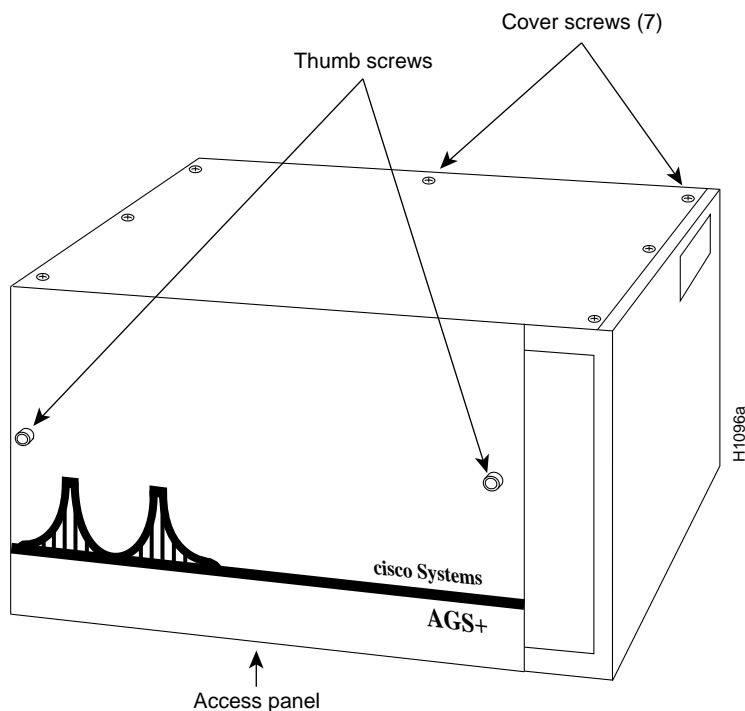

Figure 9 Front Access Panel and Cover Fasteners
- Step 2** On the front access panel (see Figure 9), turn the two thumb screws counterclockwise to loosen them; do not attempt to remove them from the panel. Pull the panel off the chassis and set it aside.
- Step 2** Remove the top cover of the router by removing the seven screws that secure it. (See Figure 9.)